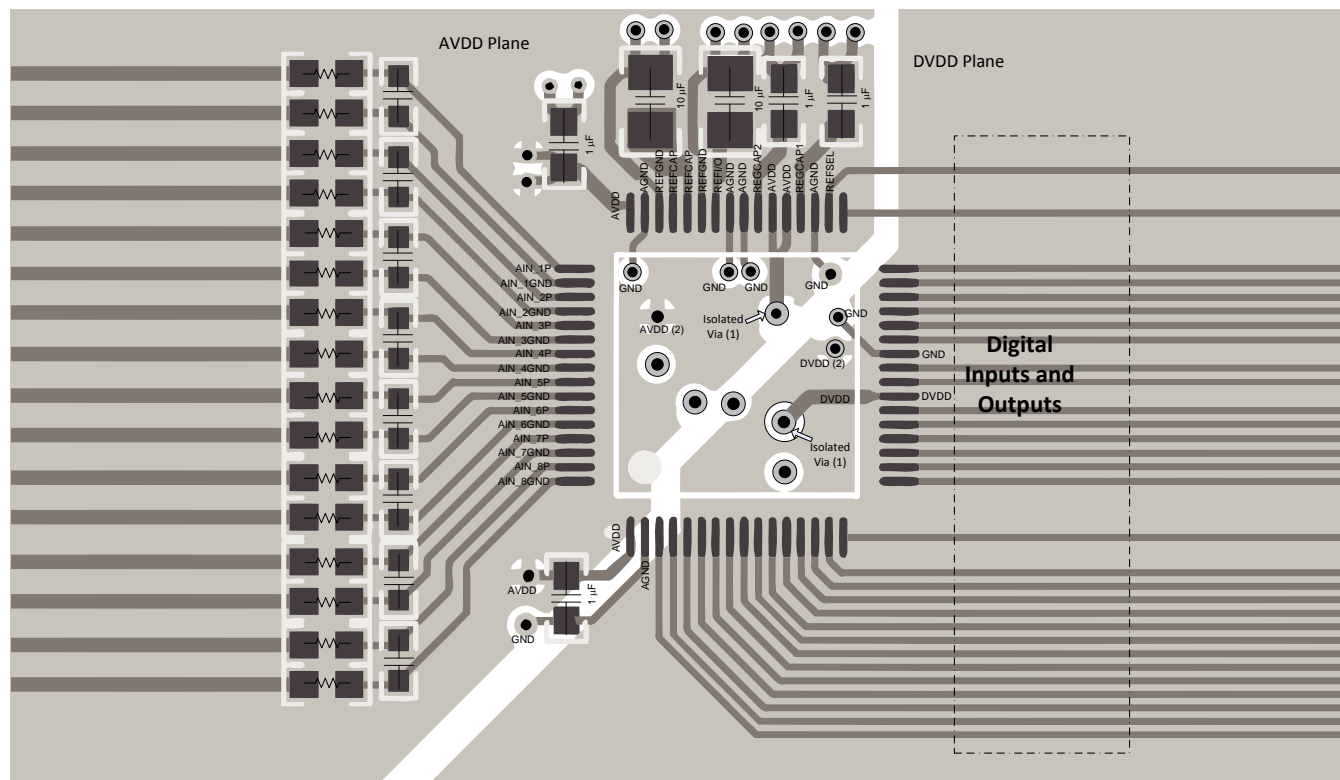
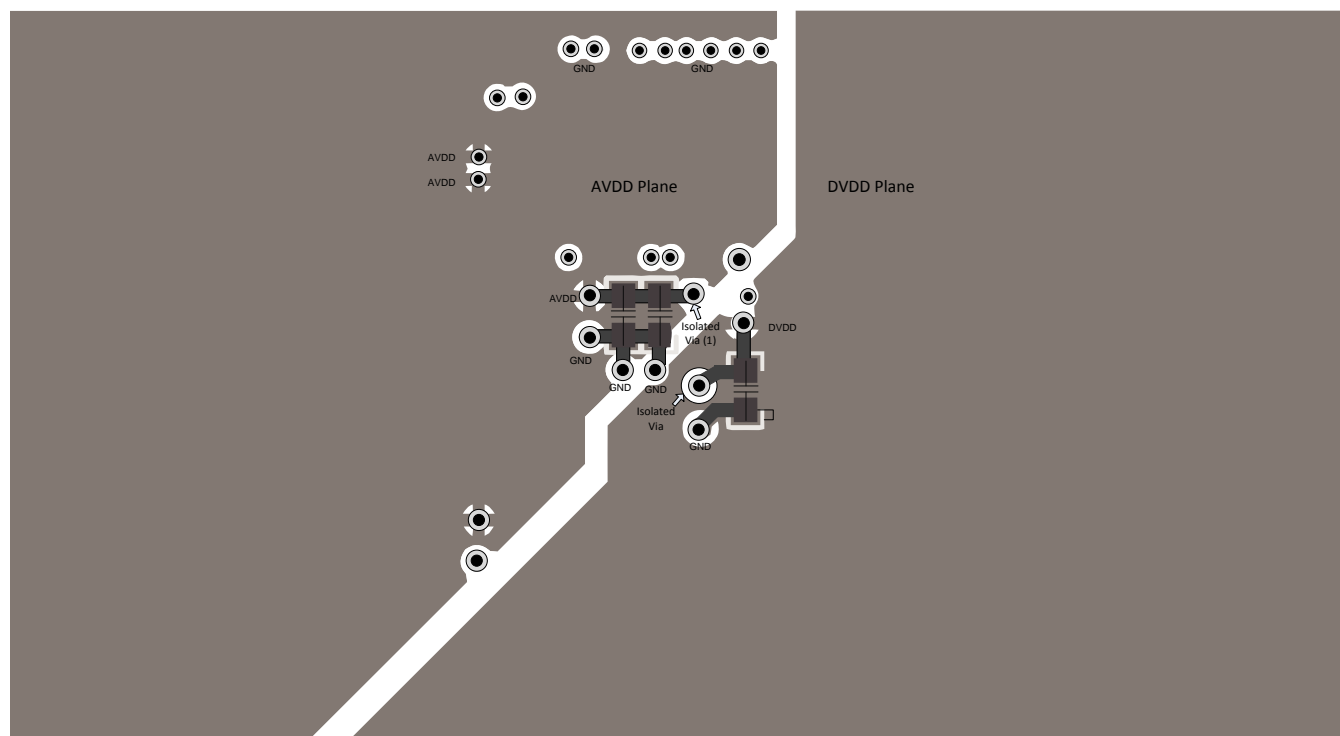

Figure 89. Top Layer Layout
Figure 90. Bottom Layer Layout
Figure 89 and Figure 90 illustrate a PCB layout example for the ADS8588H.
- Power sources to the ADS8588H must be clean and well-bypassed. As a result of dynamic currents during conversion, each AVDD must have a decoupling capacitor to keep the supply voltage stable. Use wide traces or a dedicated analog supply plane to minimize trace inductance and reduce glitches. Using a 1- μ F, X7R-grade, 0603-size ceramic capacitor is recommended in close proximity to each analog (AVDD) supply pins. Bypass capacitors for AVDD pins 1 and 48 are located on the top layer; see Figure 89. AVDD supply pins 37 and 38 are connected to bypass capacitors in the bottom layer using an isolated via (1); see Figure 90. A separate via (2) is used to connect the bypass capacitor to the AVDD plane.
- For decoupling the digital (DVDD) supply pin, a 1- μ F, X7R-grade, 0603-size ceramic capacitor is recommended. The DVDD bypass capacitor is located in the bottom layer; see Figure 90.
Figure 89 and Figure 90 illustrate a recommended layout for the ADS8588H along with proper decoupling and reference capacitor placement and connections.